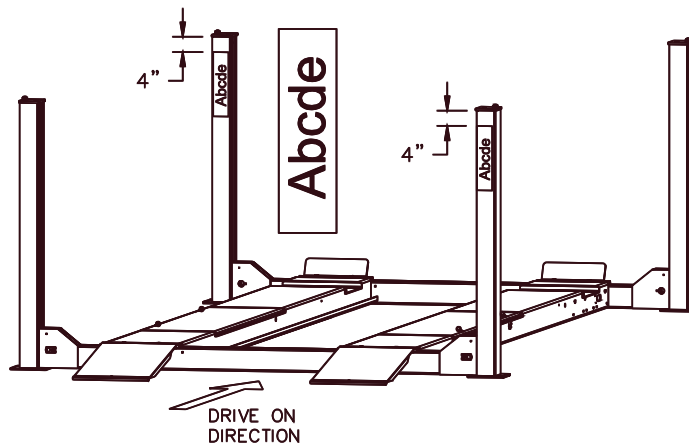

Fig 15 – Logo Decal Placement
- 45) Place a logo decal on the rear surface of both the front driver side column and rear passenger side column. Center each decal left-to-right and position 4" from top of column, **Fig 15.**